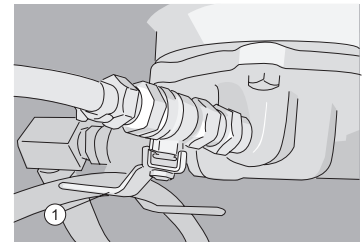

Figure 2-54
Drain the sediment in fuel tank (Figure 2-54): Turn loose the valve (1) on the bottom of fuel tank, to drain the water and sediment in the fuel.